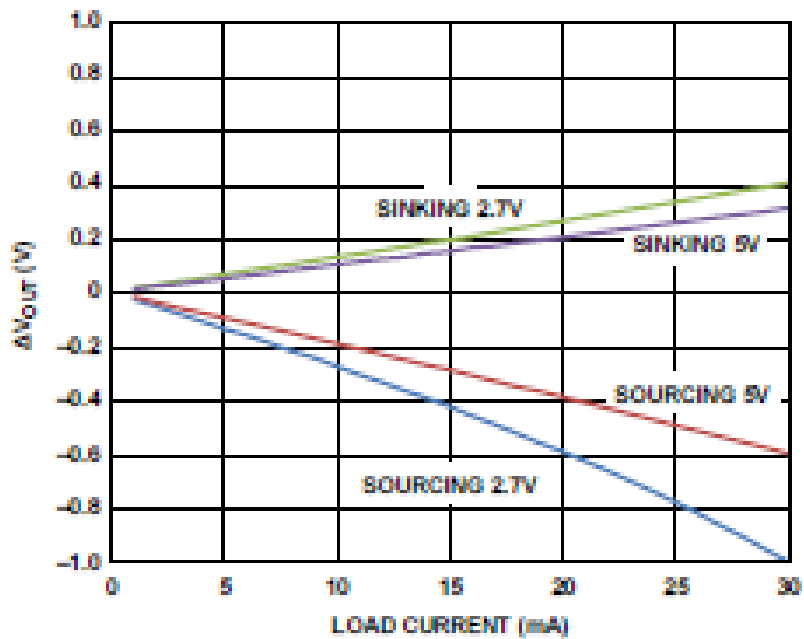

FIGURE 9. Headroom/Footroom vs Load Current.
- 7/ When drawing a load current at either rail, the output voltage headroom, with respect to that rail, is limited by the 25 Ω typical channel resistance of the output device. For example, when sinking 1 mA, the minimum output voltage = 25 $\Omega \times 1\text{ mA} = 25\text{ mV}$ (see Figure 9).